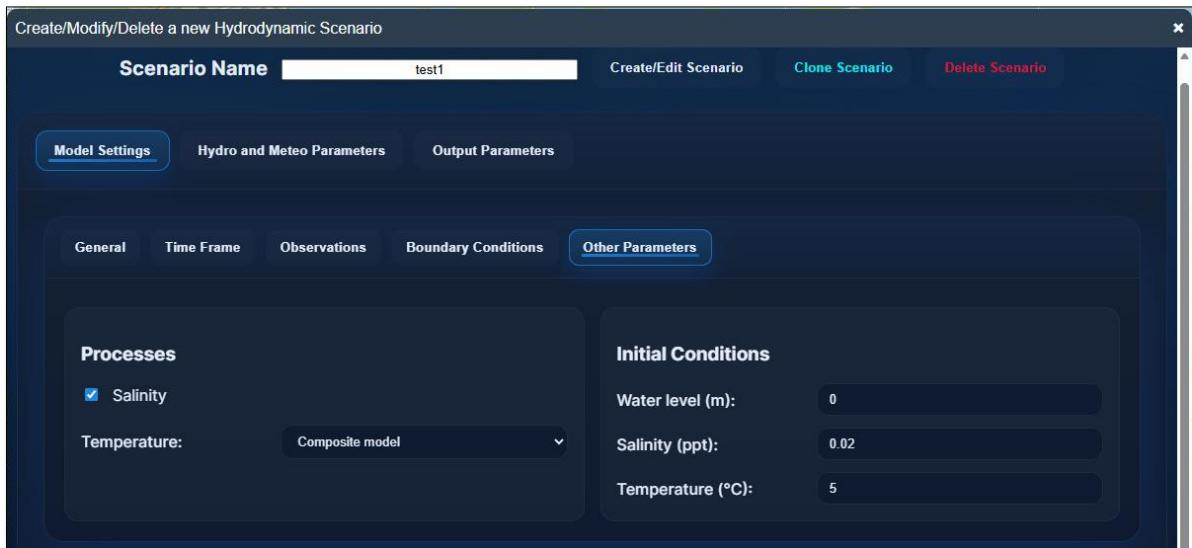

Figure 2.21. Set up other initial parameters
- ❖ *Other Parameters:* The user can define other initial parameters, such as defining a temperature model, assigning an initial water level, salinity, or temperature for the whole area in this sub-tab (**Figure 2.21**).